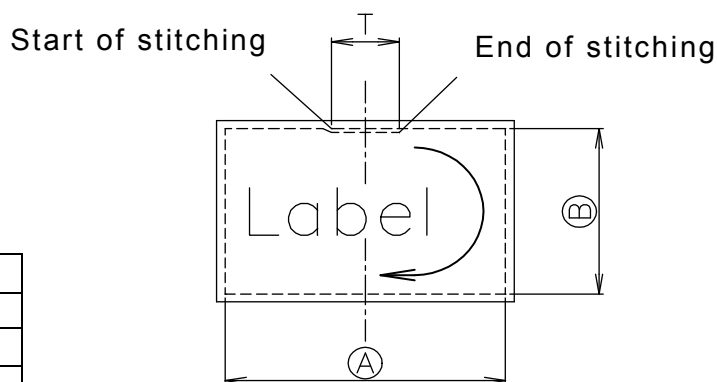
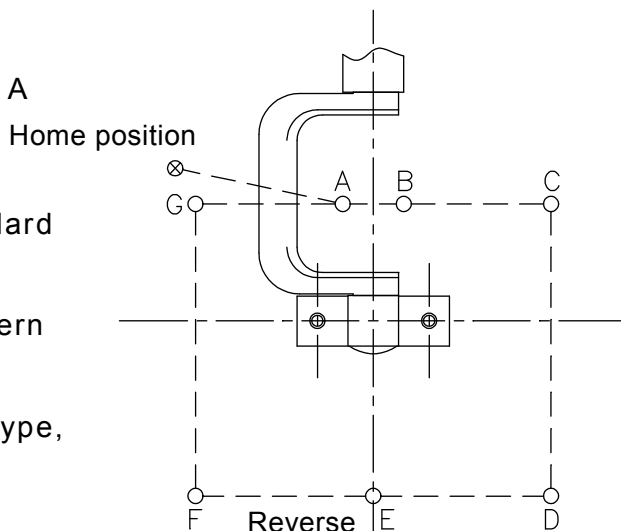

Fig. 1
Fig. 3
- (2) Stitching material thickness: 4mm or less
- (3) Superimposed stitching length (Fig. 1 T dimension) ... 12mm or less
- (4) Restrictions
Input the stitching data in a clockwise direction (direction of bold arrow in Fig. 1). The entire periphery cannot be stitched when the data is input in the reverse direction (counterclockwise direction).
Refer to the pattern in Fig. 1, and set points A to G as shown in Fig. 3.